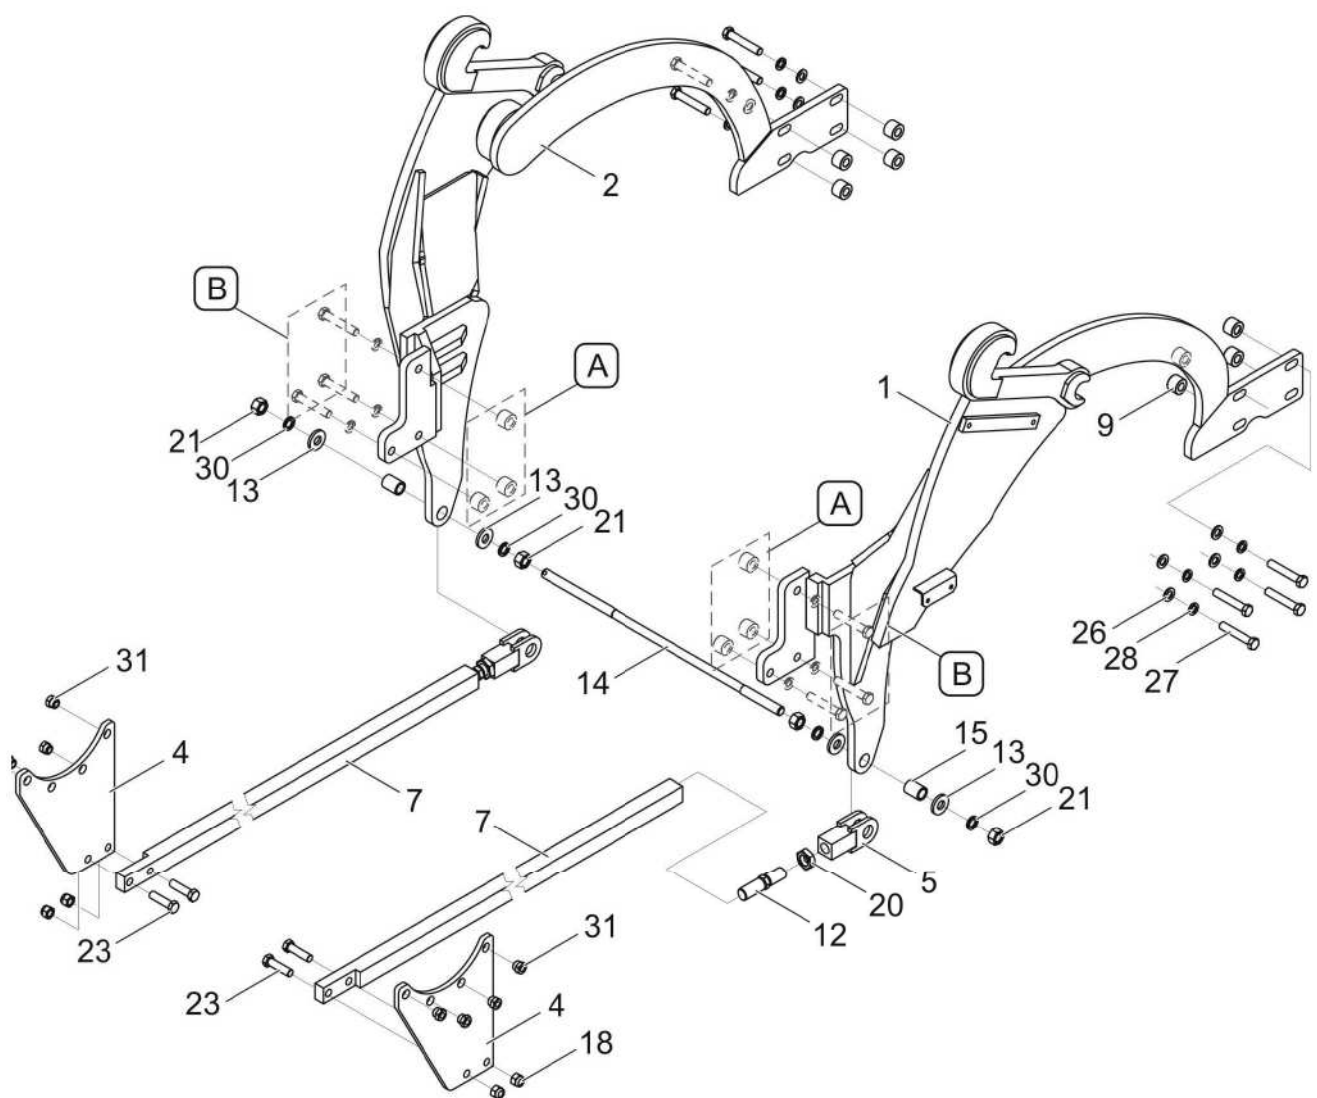

FIG. 4.4A Mounting bearing frame on Zefir 85/85K tractors
(1)- right bracket; (2)- left bracket; (4)- brace bracket; (5)- brace rod eye; (7)-brace rod; (9)- sleeve; (12)- double ended bolt; (13)- special washer; (14)- securing rod; (18)- M16 nut; (21)- M20 nut; (23)- M16x70 bolt; (26)- washer 14-100HV; (27)- M16x1 (28)- Z 16.3 spring washer; (30)- Z 20.5 spring washer; (31)- special nut;
In Zefir 85/85K tractors without front three-point lift dismantle sleeves present in tractor (A) FIG. 4.4A). Brackets (1) and (2) in front parts screw down using bolts (27) with washers (27) and (28), in tractors without front three point linkage apply sleeves (9). Rear part of brackets (1) and (2) screw down using bolts present in tractor (B). Screw brace brackets (4) to driving axle using special nuts (31) instead of the existing ones. To brace brackets (4) screw down brace rods (7) using bolts (23) with nuts (18). Using securing rods (14) through sleeves (15) connect brackets (1) and (2) and secure with nuts (21) with washers
(13) and (30). Make certain that double ended bolts (12) are uniformly screwed out from brace rods (7) and brace eye (5). Eliminate slack from bearing frame by screwing out double ended bolt (12) from brace rod (7) and brace eye (5), tighten counter nuts (20).